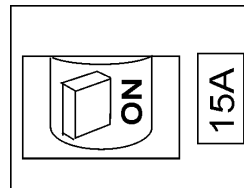

Figure 22. Main Circuit Breaker (ON)
- Place the main circuit breaker (Figure 22) in the **ON** position.